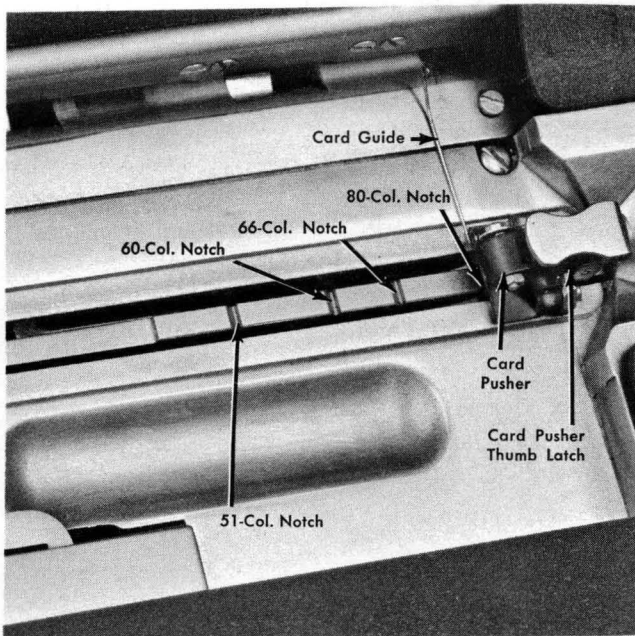

Figure 19. Latch-Type Card Pusher
2. Lift the thumb latch and move the card pusher to the proper card column notch (see Figure 19). A spring guides each card under the card pusher for correct feeding position.